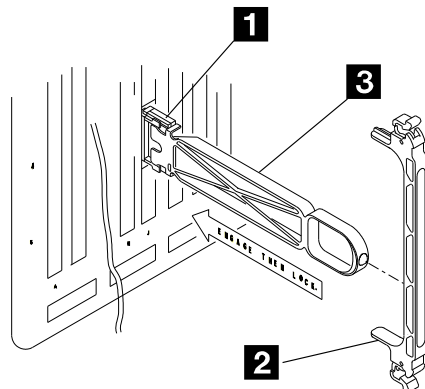

Figure 6-9. Installing a BPC1
- b. ____ Install extender **PN 1953093** **3** on top of the **BPC1** cards (see Figure 6-9).